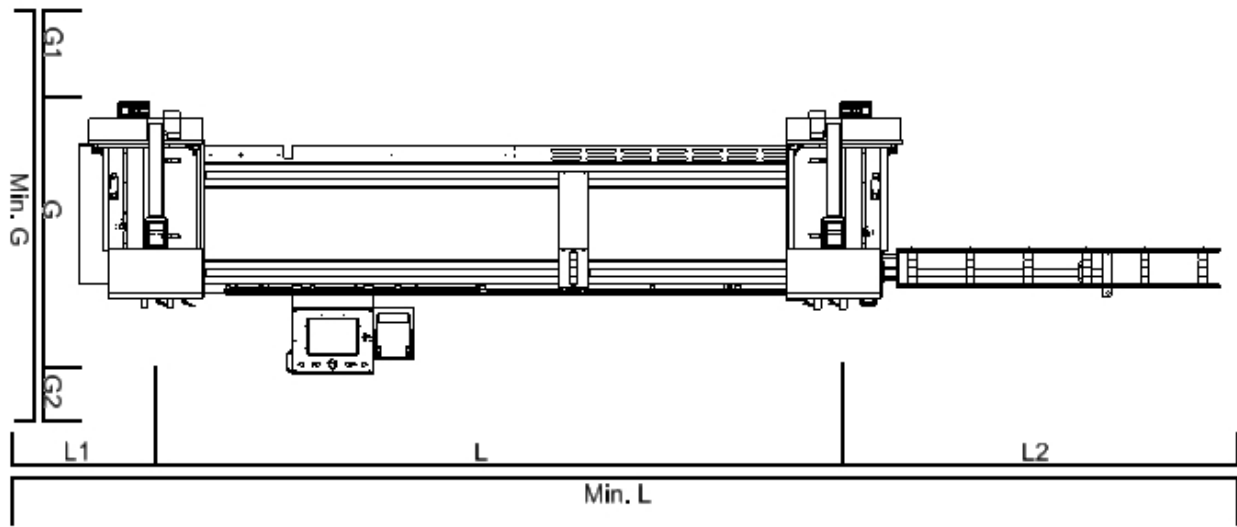

FIGURE 6
Minimal dimensions for secure working are given in Figure 6 for machine settlement. These dimensions are:
**4.1.1.2.** See Figure 6 for opening the top cover towards back, using filing evacuation manifold, and for doing proper maintenance and cleaning